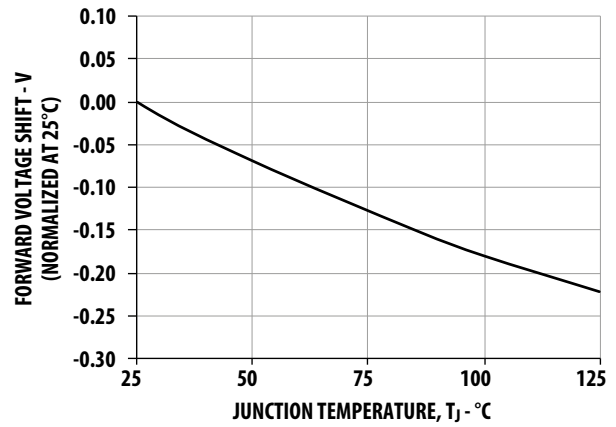

Figure 11. Forward Voltage Shift vs. Junction Temperature.
1. Derate linearly based on Figure 11.